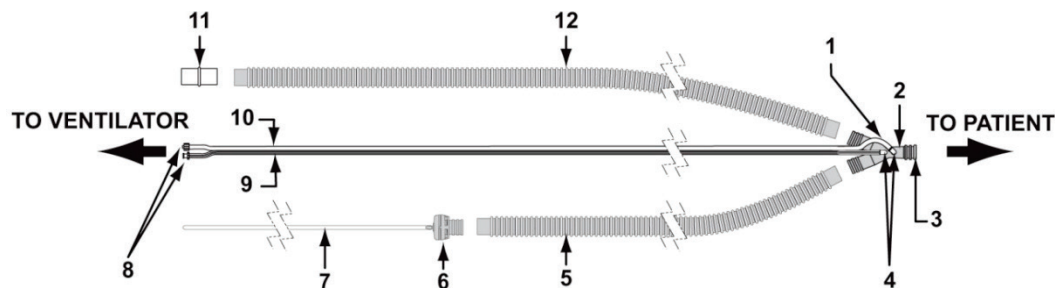

Figure 12-1. Patient Circuit
4. Connect the Patient Circuit. To keep moisture out of the sense lines attached at the patient wye, be sure to connect the exhalation valve and circuit to the wye so the proximal sense lines are oriented up (see Figure 12-1.). Connect a test lung to the circuit.